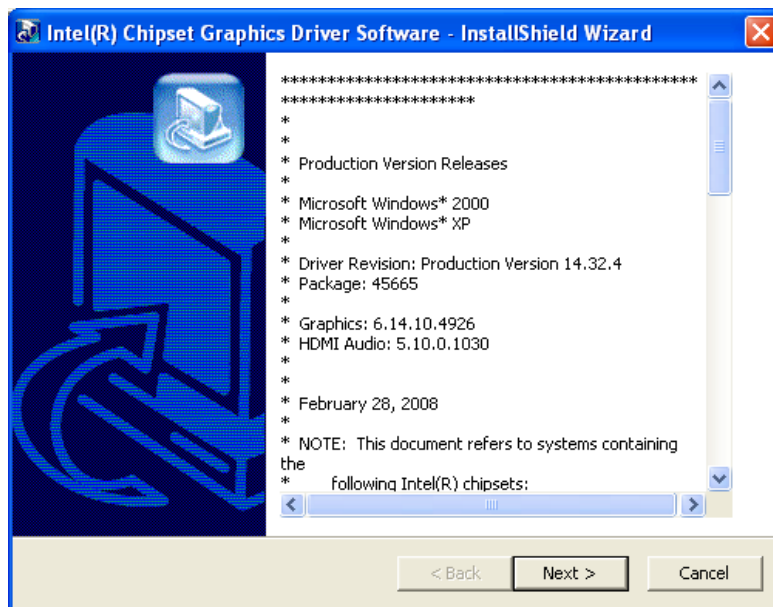

Figure 5-7: Graphics Driver Read Me File
**Step 4:** The **Read Me** file in **Figure 5-7** appears.